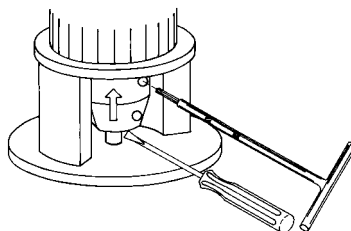

Fig. 17 Tightening the screws
6. Tighten the screws two and two (one side at a time) to the torque stated below. See fig. 17.